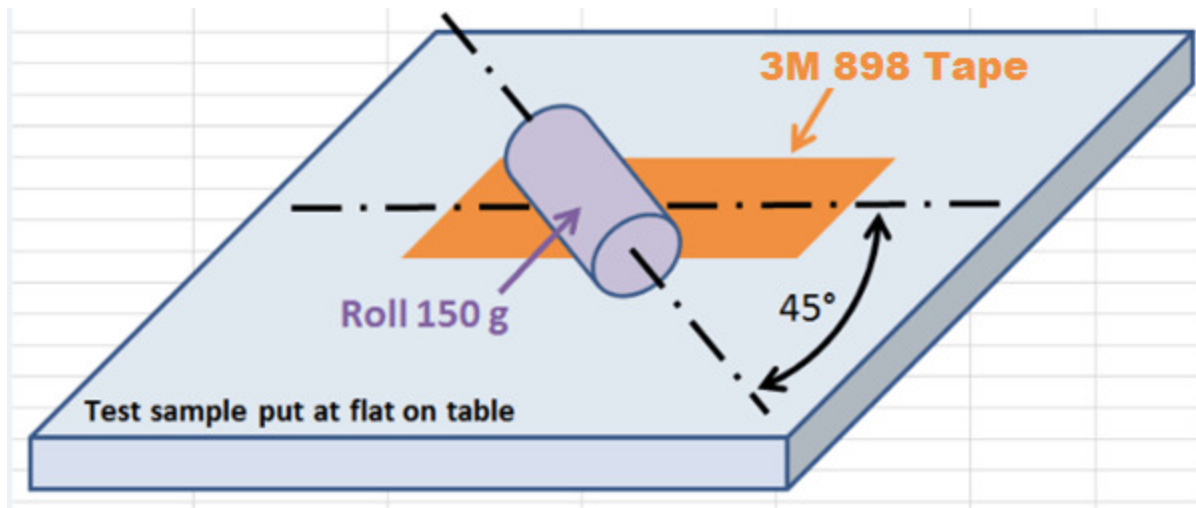

Figure 1 – Rolling over tape
3. Use the 150 g roller to roll lightly over the entire specimen at a 45° angle from the 125 mm side of the tape (see Figure 1) for 30 seconds. Roll over the tape no less than 30 times.